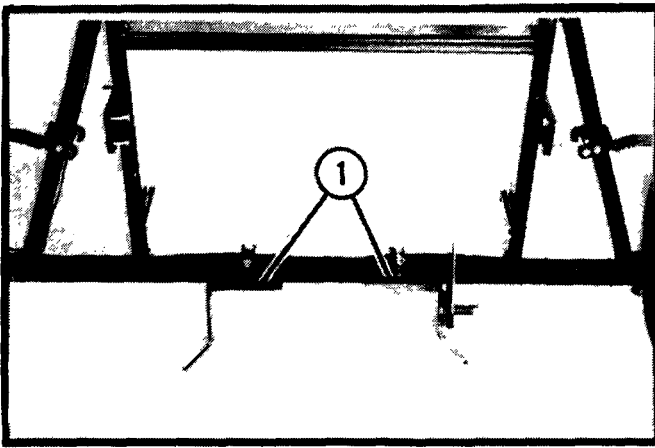

Figure 15
2. Using the 3/8-16 x 2 1/4" screws and locknuts mount the wheel stops to the rear axle frame. Do not tighten. Position the wheel stops on the inside of the frame members the approximate width of the tires on the sod cutter. (See Figure 15).